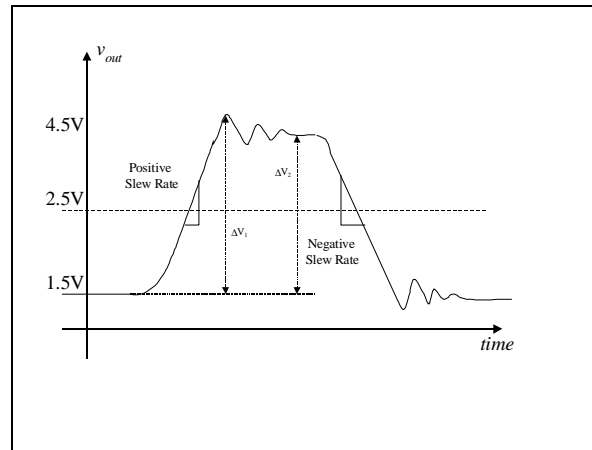

Figure 4.1b: Observed Transient Response of v_{out}
3. Using an oscilloscope, measure the slew rate of the output voltage, v_{out} . The observed v_{out} should look like in Figure 4.1b.